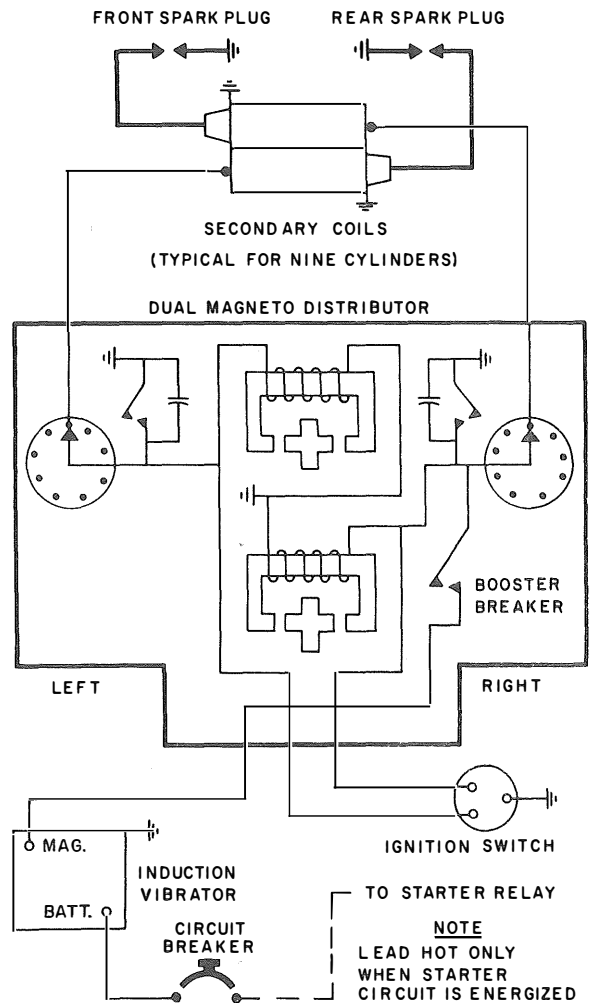

Figure 5-30. Ignition System Schematic Diagram
**5-232. DESCRIPTION.** (See figure 5-30.) The ignition system consists of a dual magneto distributor, a low tension ignition harness carrying electrical current to a coil mounted on each cylinder, high tension leads from the coil to each spark plug in the cylinder, an ignition switch and an induction vibrator.